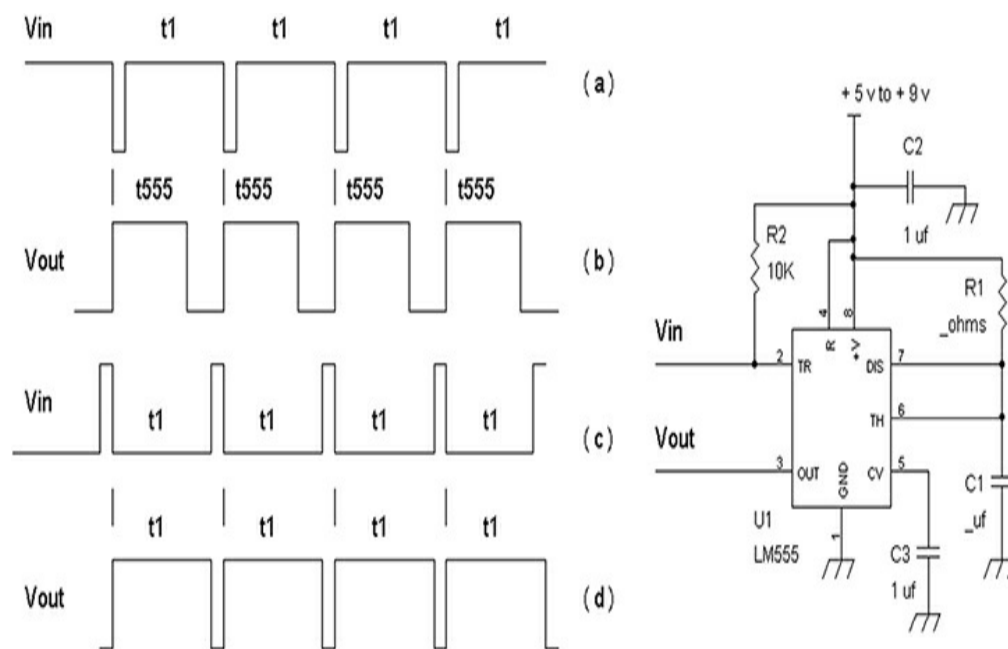
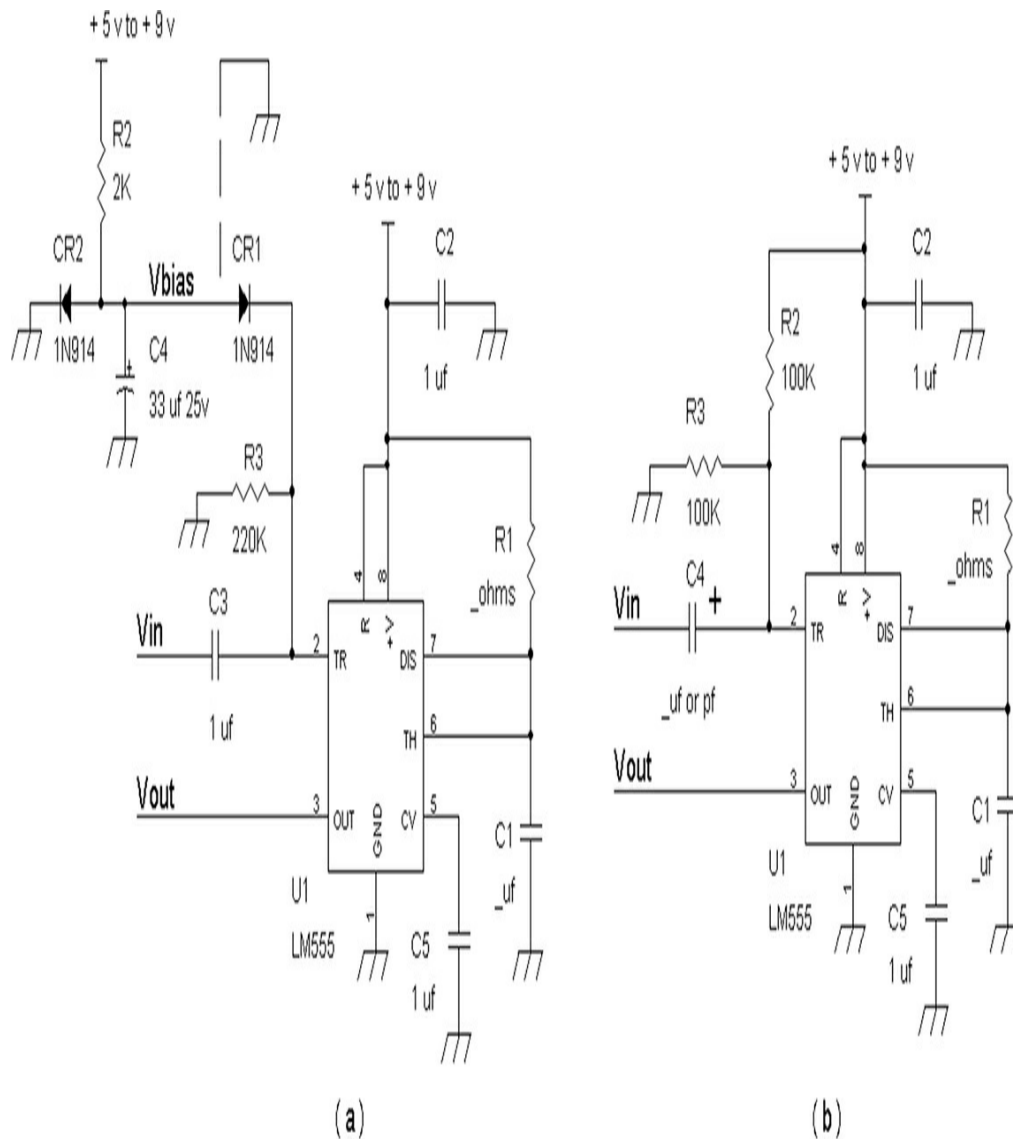
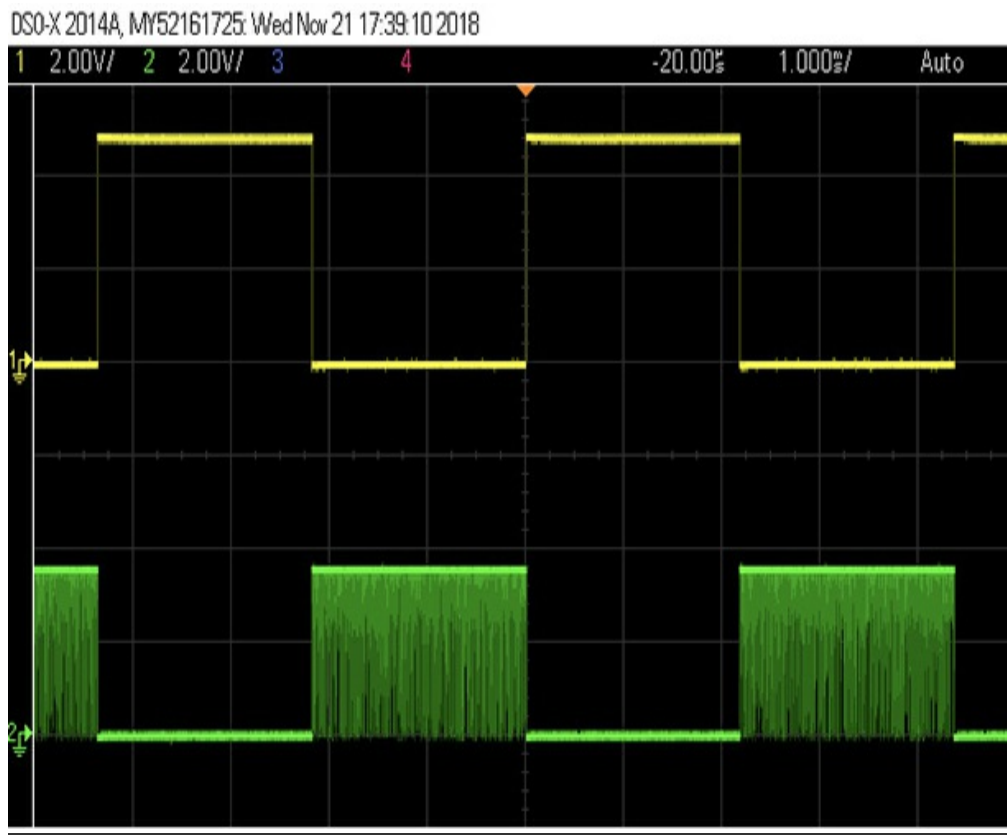
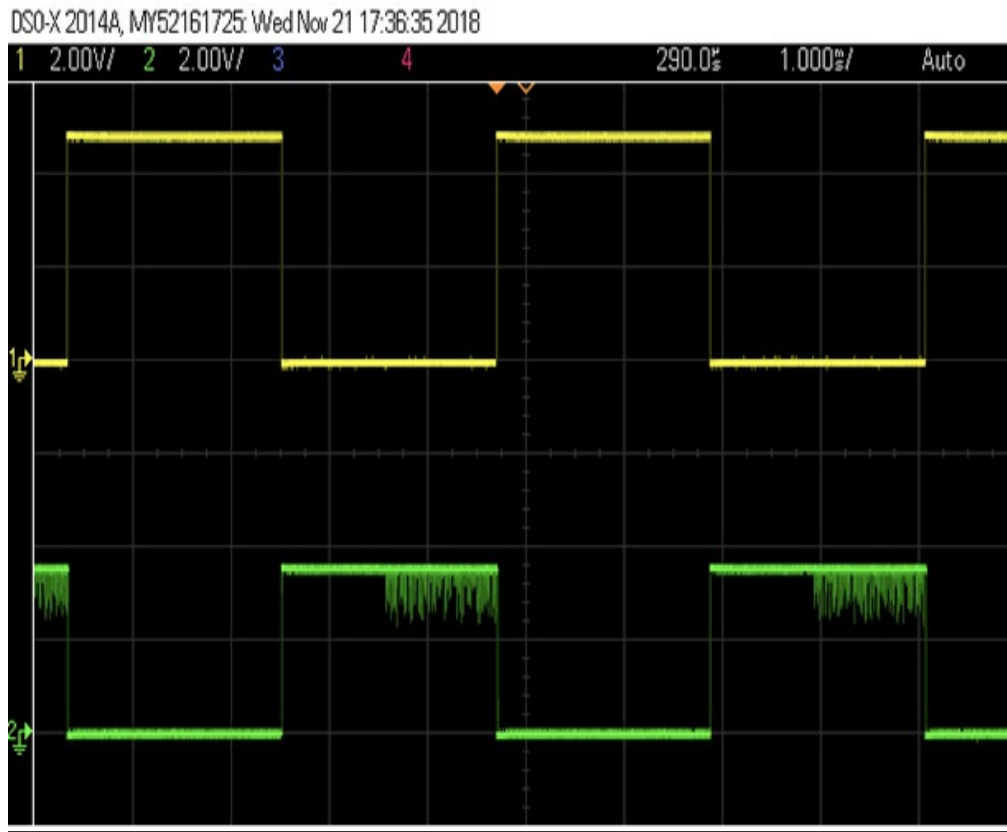

FIGURE 13.2 Input waveforms (a) and (c), and output waveforms (b) and (d) respectively with a schematic diagram of the monostable timing pulse generator.
FIGURE 13.4 (a) AC coupling via a DC restoration circuit via C3, CR1, and R3 with Vbias ~ 0.7 volt; (b) AC
FIGURE 13.6 Completely gated oscillating waveform when C1 has insufficient capacitance. Top trace is the input signal, bottom trace is the output waveform.
FIGURE 13-7 Top trace is the input signal and the bottom trace is the output waveform with noise.
This 555 pulse generator circuit provides a fixed duration output pulse for an input signal that transitions from high to low logic levels (e.g., 15 v to 0 v). See Figure 13-2 where the 555 circuit is configured in “monostable” or pulse generator mode.
A “proper” input waveform for V_{in} is one that has narrow low logic voltage pulse-width that is shorter in duration than the output high logic state. In Figure 13-2\(a\) for V_{in} , the negative going pulse is shorter in
However, if the input waveform has a longer duration low logic voltage, such as in Figure 13-2(c), where its duration $t_1 > t_{555}$, the output of the timing chip at pin 3 will result in a longer positive pulse of duration t_1 of Figure 13-2(d) even though the pulse-width should really have a duration of t_{555} shown in Figure 13-2(b).
In Figure 13-2, capacitor C3 is a decoupling capacitor to ensure that the output pulse from pin 3 does not jitter due to noise coming through the power supply. If the power supply into pin 8 has ripple or other noises, C3 may have to be changed to a higher capacitance value such as an electrolytic capacitor, 33 μ f at 25 volts, where the positive terminal of C3 is connected to pin 5 and the negative terminal of C3 is connected to ground. In general, the 555 timer chip should be powered by a regulated voltage to supply a “noise free” voltage to pin 8. However, this integrated circuit may be powered by batteries, which do not have ripple or noise. But be aware that a battery will slowly drop in voltage as it is supplying current to the 555 circuit.
1. With the circuit in Figure 13-2, find the DC conditions first using a voltmeter, or with an oscilloscope in the DC coupling mode set to 2 volts per division. Measure voltages with a voltmeter at pins 8 and 4 that should be the supply voltage, such as +5 volts (or some other positive supply voltage ≤ 15 volts). Confirm that the voltage at pin 1 that should be connected to ground is zero volts.
4. Alternatively, if you do not have a signal generator and just want to see if the 555 chip is working, connect a voltmeter (DVM) to pin 3 and ground, where the positive test lead is at pin 3 and the negative test lead is connected to ground. Make sure pull-up resistor R2 in Figure 13-2 is installed. We are now going to make an 11-second timer. Let $R_1 = 1\text{M}\Omega$, and let $C_1 = 10\text{ }\mu\text{f}$ where the (+) terminal of the C1 is connected to pins 6 and 7. The DVM should be reading close to zero volts at pin 3. Now short pin 2 to ground temporarily for less than 1 second, then observe the DVM is at a logic high voltage > 3 volts DC for about 11 seconds. You can use a watch or a clock to measure the time. If this is OK within ± 30 percent, the circuit works. Be sure to measure both R1 and C1 if possible with a DVM (e.g., Extech MN26 or equivalent DVM). If
Figure 13-4(a) shows a simple DC restoration circuit with C3, CR1 and R3, and Figure 13-4(b) shows AC coupling methods to trigger pulses via a voltage divider circuit R2 and R3.
Figure 13-4(a) shows a negative peak DC restoration circuit where the negative peak of V_{in} is set to 0 volts via the DC restoration diode CR1. This means if V_{in} is a signal that has no DC offset or any DC offset voltage, the DC restoration circuit CR1 at its cathode will provide a signal “clamped” to 0 volts for the negative peak portion of V_{in} . This effect is useful when the incoming waveform (e.g., a pulse signal) with low or high duty cycle is used. DC restoration is often used to level shift a signal to a particular or well-defined negative cycle voltage. For example, if the following (V_{in}) incoming 5-volt peak to peak signal has a range of -2.5 volts to $+2.5$ volts, -5 volts to 0 volts, $+5$ volts to $+10$ volt, etc., the DC restoration circuit at the cathode of CR1 will provide a signal that ranges from 0 volts to $+5$ volts, a standard logic level range for a 5-volt system.
The circuit in Figure 13-4(b) allows AC coupling to the trigger pin 2 at 50 percent at the power supply voltage.
With reference to the circuit in Figure 13-4\(b\) that uses AC coupling with C_4 , we see that with $C_4 = 33 \mu\text{f}$, the waveform at pin 2 of the 555 chip is shown in Figure 13-5\(a\). This waveform is a square-wave signal, whose negative cycle duration is longer than $\tau = 1.1 R_1 \times C_1 \sim 1 \text{ msec}$ in this example. As a result of this longer duration negative cycle pulse the resulting output waveform is longer than $\tau = 1.1 R_1 \times C_1$ as shown in Figure 13-5\(b\). If we have instead $C_4 = 220 \text{ pf}$, then we see in Figure 13-5\(c\) that the negative going pulse is much narrower. The “flat line” in (c) is at 2.5 volts so that the negative going spike will easily go below the threshold voltage of 1.66 volts (e.g., 33 percent of the 5-volt supply) to trigger the correct duration pulse shown in Figure 13-5\(d\).
We will now show two cases of pin 3 output signals in the monostable mode (one shot) where you can observe a high-frequency oscillating waveform from the 555 timer chip. See circuits in Figure 13-2 or Figure 13-4. The first example shows what happens when you forget to install the timing capacitor, or install the timing capacitor (e.g., C_1) with an incorrect value where $C_1 \leq 20 \text{ pf}$. See Figure 13-6, second trace from the top. The fix for this is rechecking your wiring and reading the capacitor’s
If you also forget to wire a timing capacitor for C1, then you may see an output waveform on pin 3 as shown in Figure 13-6. Also, make sure the 555 pins 6 and 7 are connected.
pulse. See Figure 13-7, bottom trace. As a reminder, you can fix this problem by using the circuit in Figure 13-4\(b\) where C4 is a capacitor between 100 pf and 1000 pf to provide a narrowed negative going pulse into input pin 2 of the 555 chip.